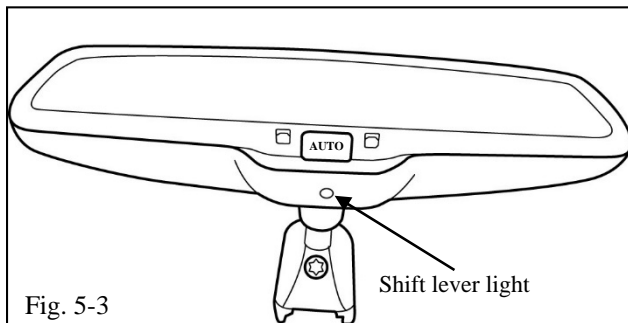

Fig. 5-3
- (1) With the ignition ON, cover the forward-looking light sensor on back of the mirror. Low-level ambient lighting should be visible from the bottom of the mirror (Fig. 5-3).
- (2) Turn the ignition OFF.